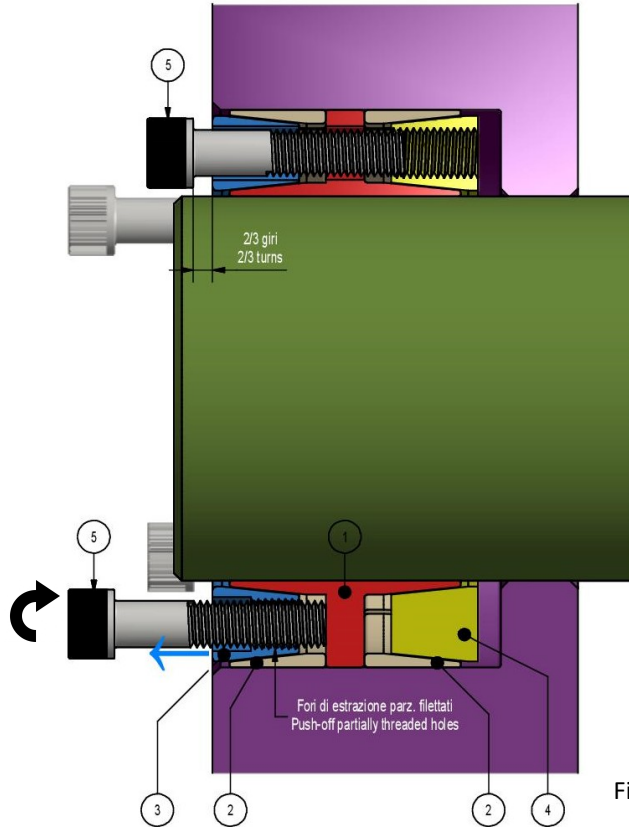

Fig. 5. Release of front thrust ring.
- Transfer some screws into all push-off partially threaded holes in the front thrust ring. **Progressively tighten these screws in a crosswise pattern, using approx. ¼ turns for several passes** until front thrust ring is released (fig. 5). **Leave the screws in place after front thrust ring is released.**